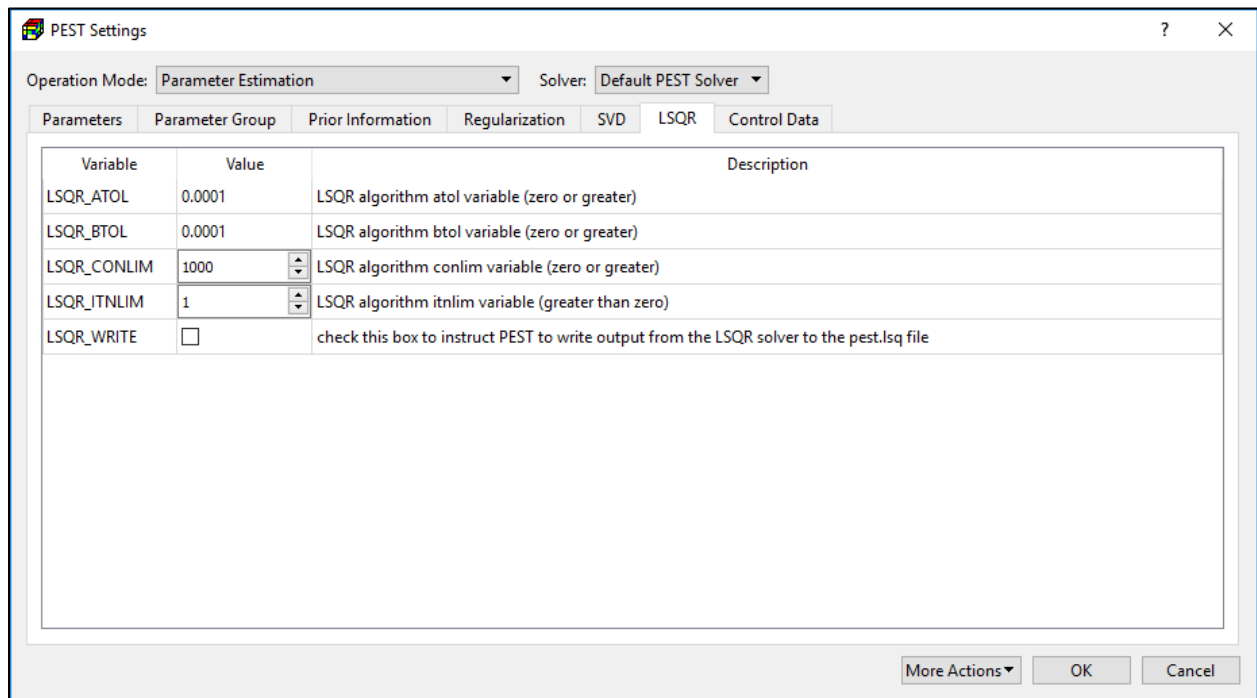

Figure 142. The LSQR tab of the PEST Settings dialog box
9. **LSQR Tab** (Figure 142): The variables of this tab are used only if the Solver is LSQR.